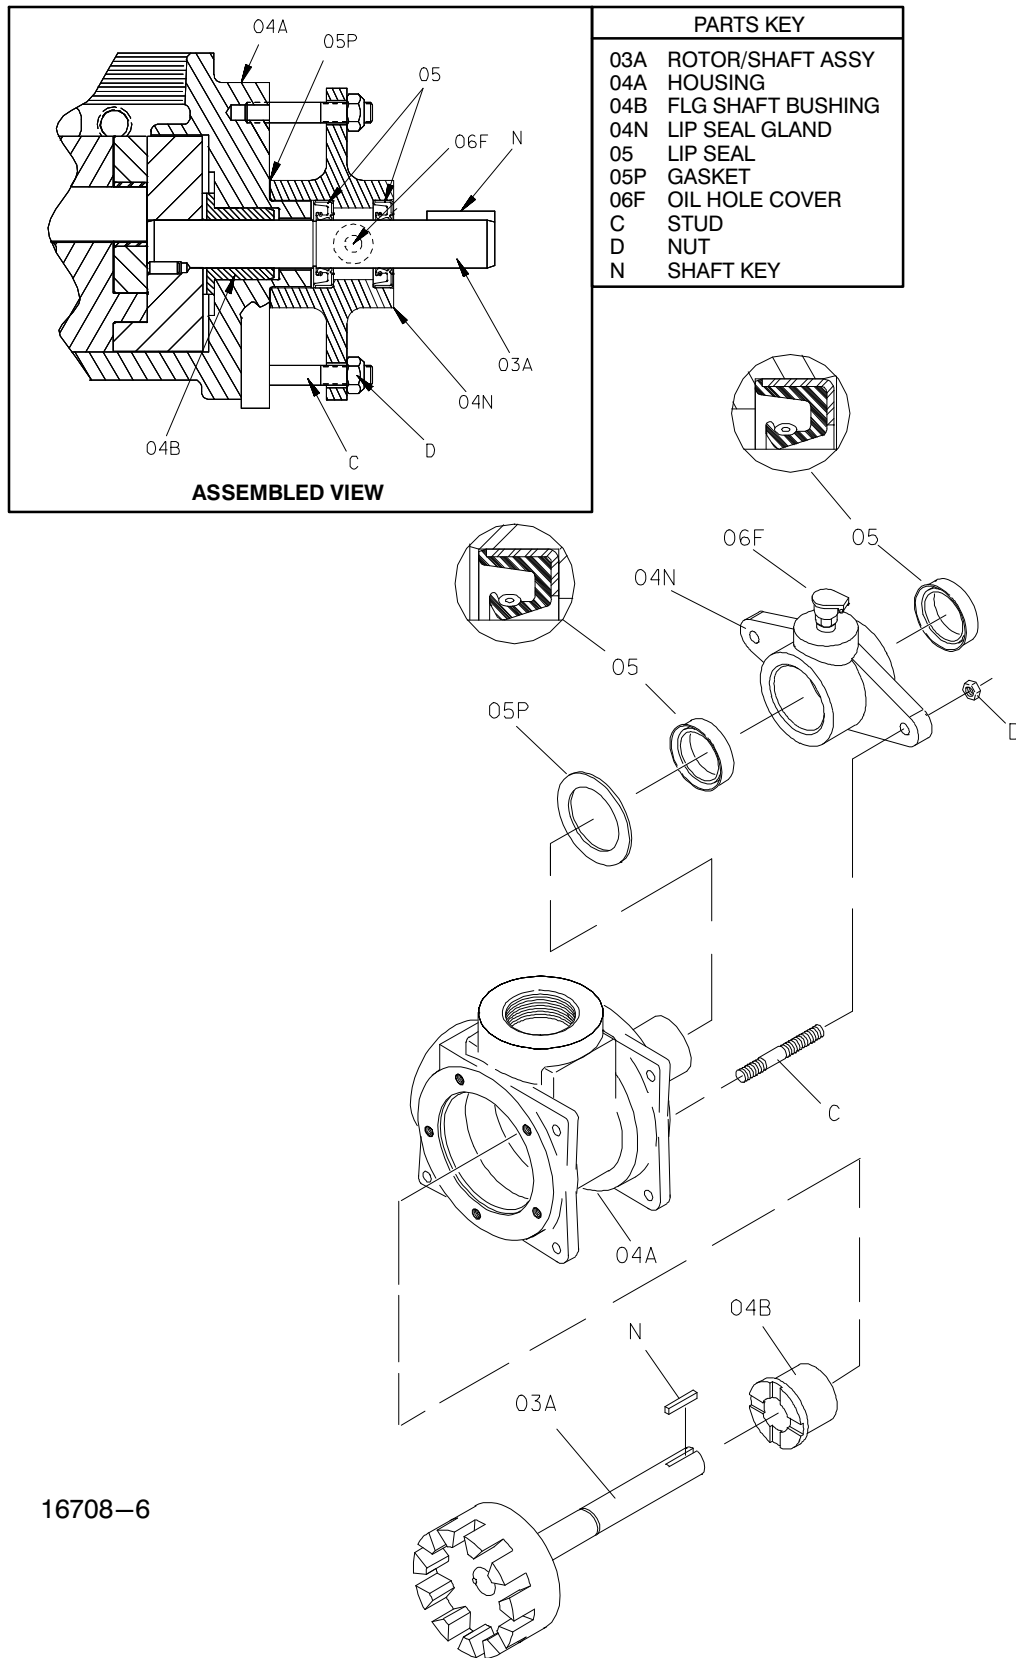

Figure F-2. Optional 65A Lip Seal
Lightly lubricate the I.D. of the gland (04N) with oil. Press the lip seals (05) into the gland with the lips positioned as shown in Figure F-2.